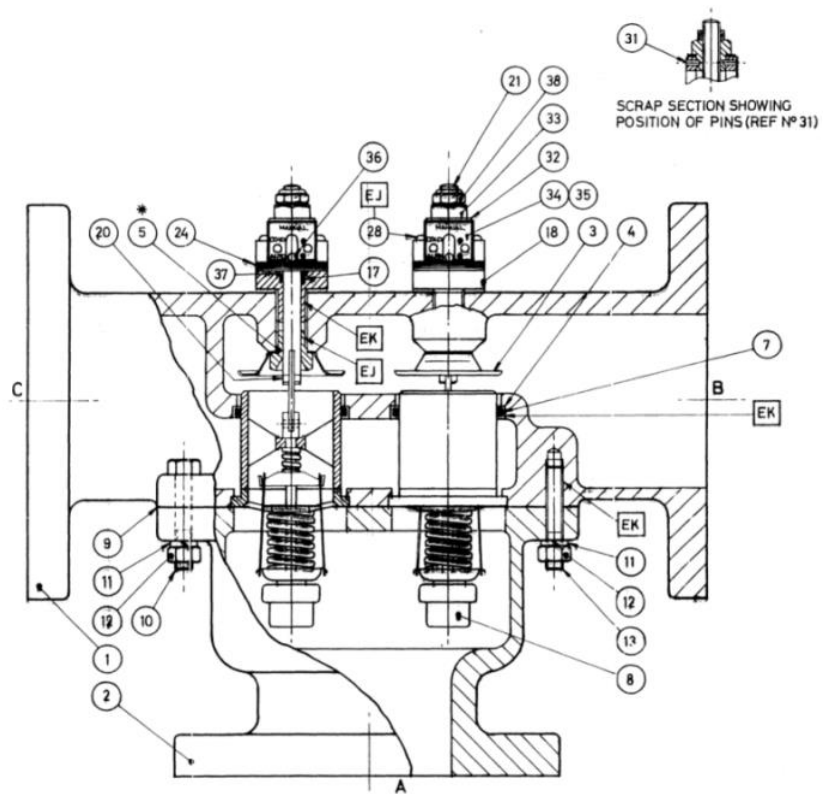

Figure 7.1 - Diagram showing 4" B valve with manual override.
1. Refer to figure 7.1. Remove housing nuts (Item 12) and split valve. Remove the lower housing (Item 2) taking care not to damage the elements. Remove and discard housing gasket (Item 9) ensuring any traces of the gasket are removed from the housing mating faces. Please note that in some sizes of Model B Valves 'O' rings are used instead of gaskets.
4. Carefully remove the indicator pin (item 36).
9. Remove 'O' rings. BO valve item 7. BR valve item 7 & 17.